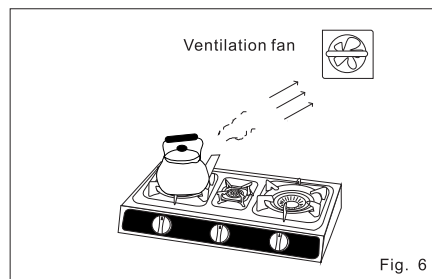

Fig. 6
- Never use the gas cooker for long periods of time (over 10 minutes) in a small room or in a closed-off space without the ventilation. (Fig. 6).